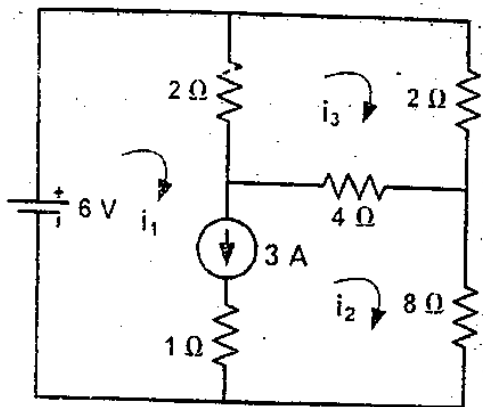

Fig. 2.7
7. Determine the mesh current of the circuit shown in Fig. 2.7 using Mesh Analysis. [Ans: 3.574A, 0.473A, 1.1052A]